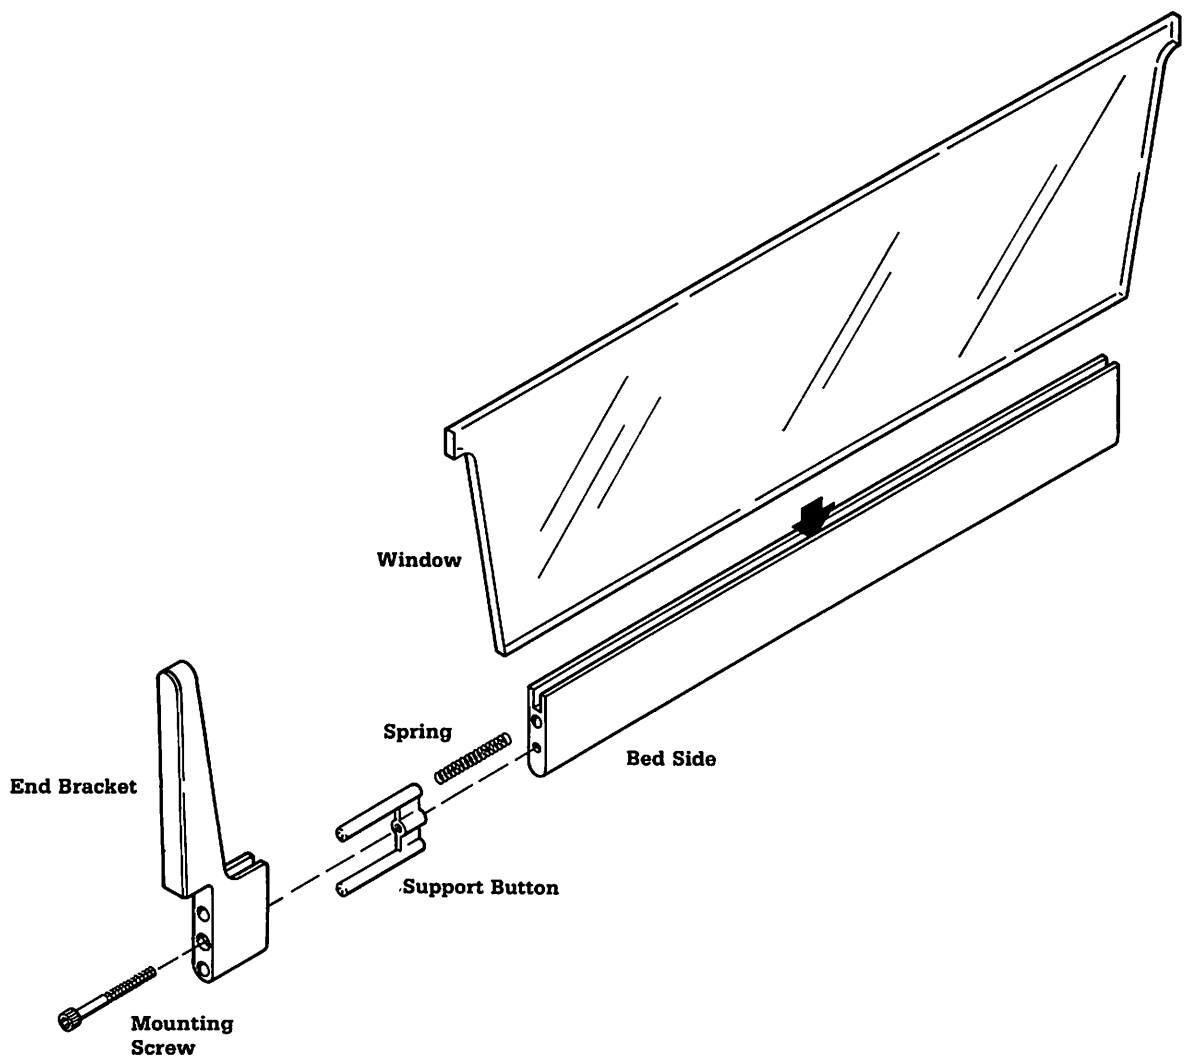

Figure 5-11. Side Panel Assembly.
B. Side Panel Repairs (Figure 5-11)